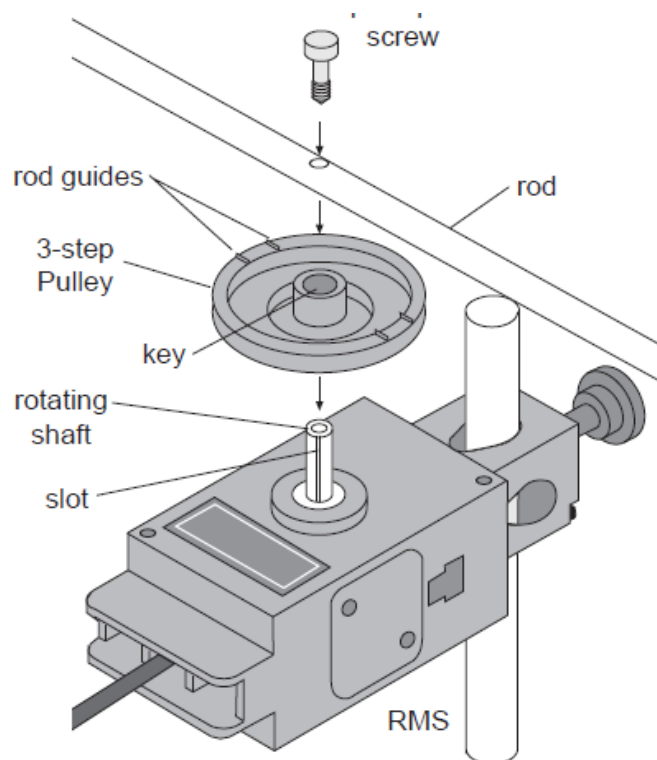

Figure 4
1. Mount the rod on the 3-step pulley, using the center screw, as shown in Figure 4. Make sure the rod fits into the rod guides on the largest pulley.